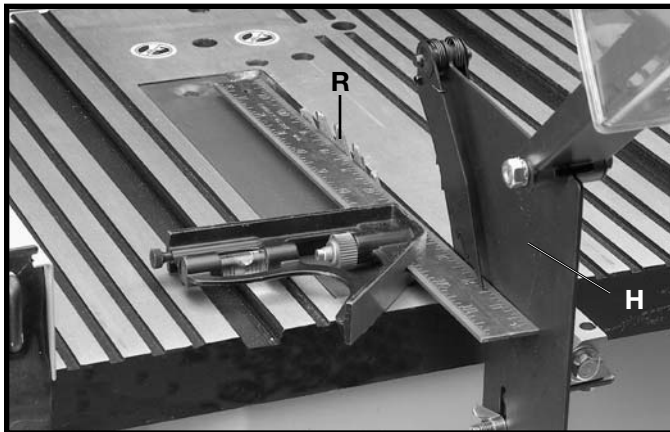

Fig. 12A
10. Using a straight edge, check to see if the splitter (H) Fig. 12A, is aligned with the saw blade (R). If an adjustment is necessary, the splitter (H) can be moved left or right and rotated.